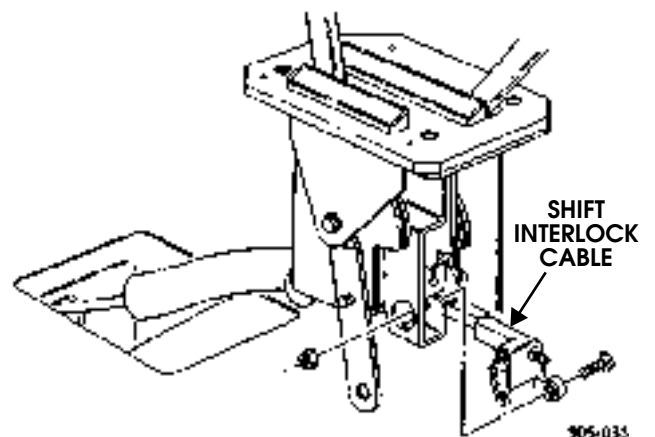

Figure 5-56: Interlock Cable Attachment
10. Disconnect interlock cable at shifter (Figure 5-56).
3. Work interlock cable through boot and connect cable to shift housing (Figure 5-56).